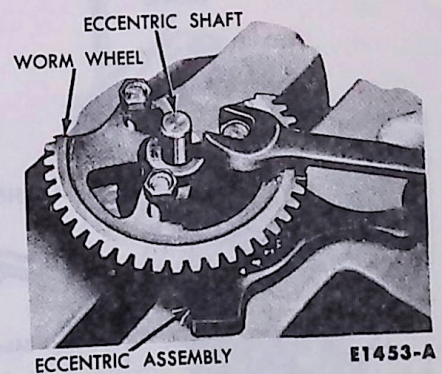
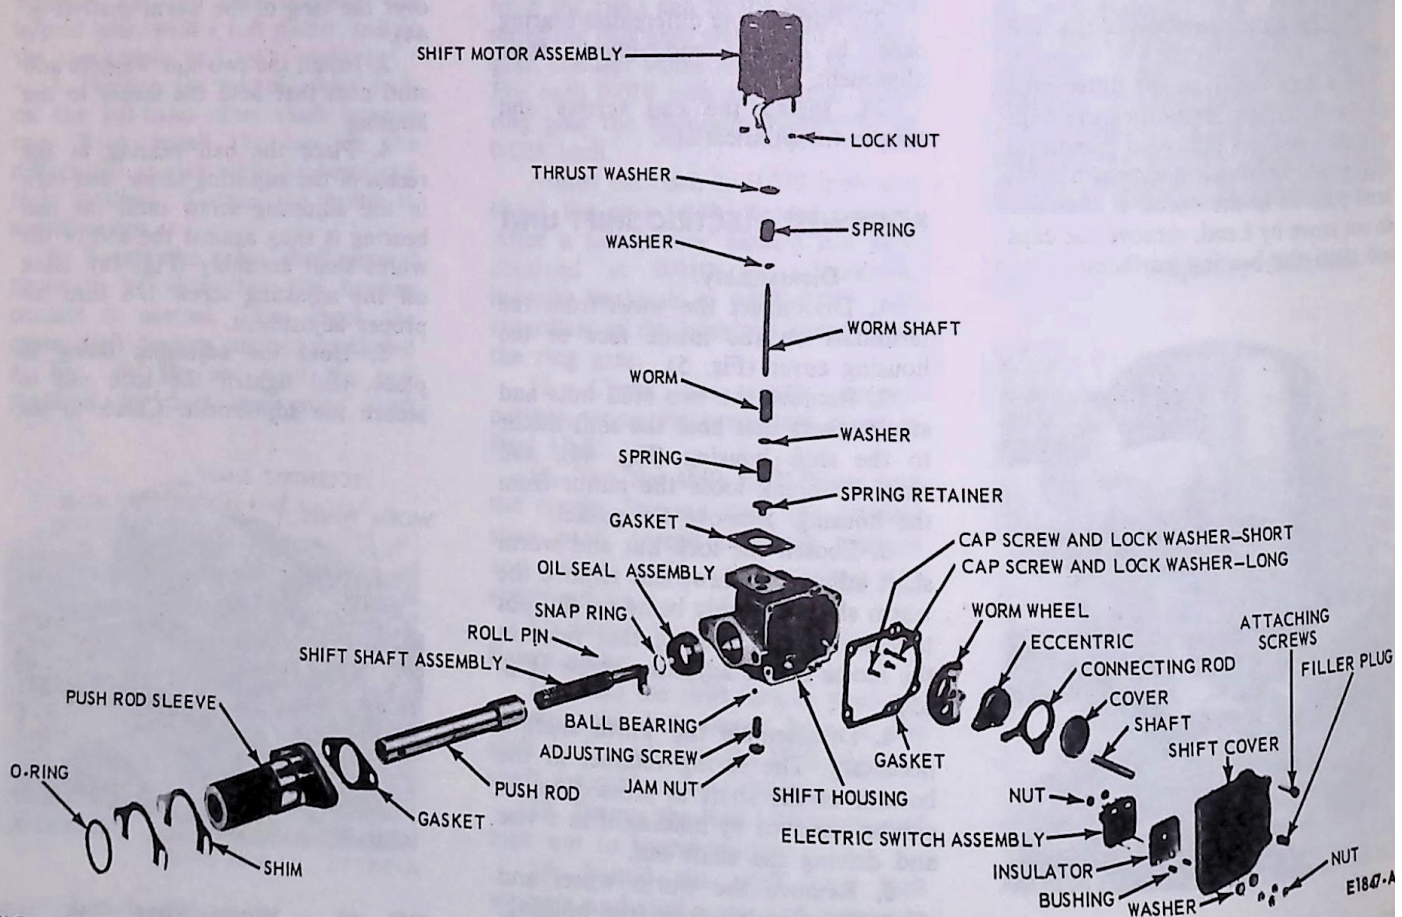

FIG. 46 Worm Wheel and Eccentric Components
FIG. 47 Rockwell Shift Unit Disassembled
washers and drive the eccentric shift out of the assembly (Fig. 46).
1. Assemble the worm, springs, spring washers, and thrust washer to the worm shaft and press on the lower spring retainer (Fig. 47). Position the worm shaft assembly in the shift housing.
6. Position the worm wheel at the inner side of the eccentric, and place the connecting rod and cover on the outer side (Fig. 47). While holding all these components in a vise, secure them together by driving the eccentric shaft through the assembly (Fig. 46). The shaft should protrude an equal distance from each side of the assembly. Install the cap screws and lock washers.